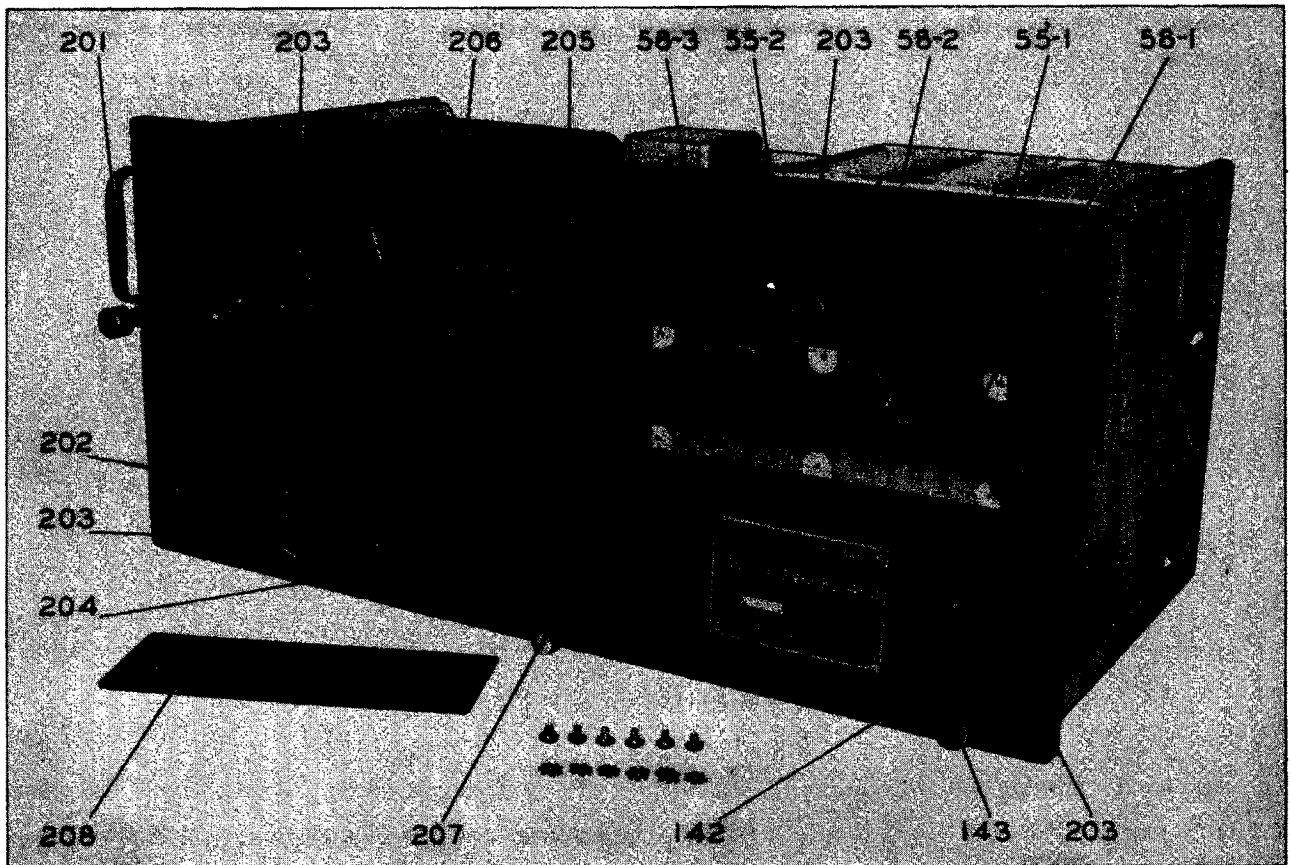

Figure 1-3. Radio Receiver BC-348-(*) or BC-224-(*)—Front View of Chassis with the Tube Shelf Cover Removed
c. PANEL.—The front panel is attached to the chassis and to the end plates by screws. Two handles are mounted on the panel. A cutout, covered by a plate, is provided to give access to the wiring under the r-f tube shelf for servicing and maintenance. (See figure 1-3.) The following panel items are mounted on the front of the panel: Antenna and ground binding posts; antenna alignment control "ANT ALIGN"; dial lights rheostat control "DIAL LIGHTS"; tuning control "TUNING"; band switch control "BAND SWITCH"; dial window housing which covers the dial lights; beat frequency control "BEAT FREQ"; crystal filter control "OUT-CRYSTAL-IN"; volume control "INCREASE VOL; AVC-OFF-MVC" control; "C.W. OSC" control; and two telephone jacks "TEL."